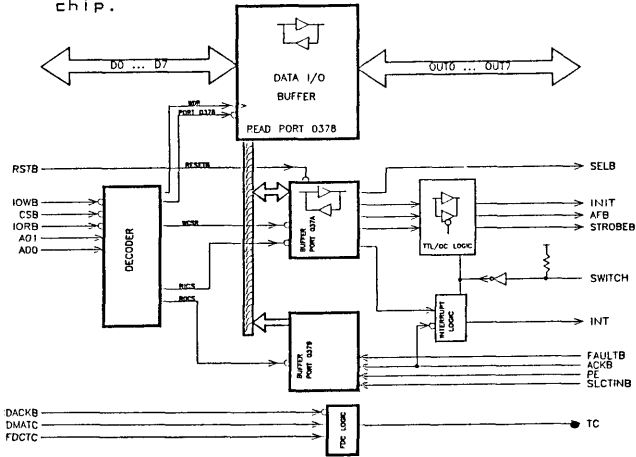

Figure 1.
1.1 The Tandy part# 8075068 - Printer Interface I.C provides the interface between the system I/O bus and the printer. Figure 1 shows Block diagram of Printer Interface chip. Figure 2 shows pin configurations of Printer Interface chip.